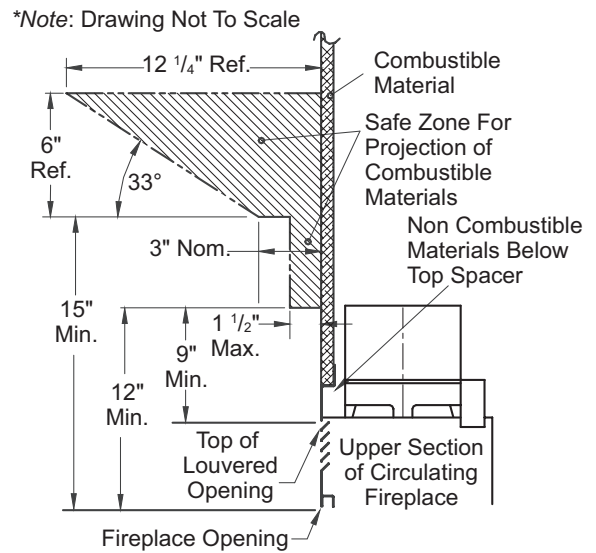

**Figure 3 - Hearth Extension**
Thermal conductivity " $k$ " of materials can be obtained from manufacturer or supplier of noncombustible material. If hearth extension is to be covered, use noncombustible material such as tile, slate, brick, concrete, metal, glass, marble, stone, etc. Provide a means to prevent hearth extension from shifting and seal gap between fireplace frame and hearth extension with a non-combustible material such as sand-cement grout (see Figure 3, page 6).
**⚠ WARNING: Hearth extension is to be installed only as shown in Figure 3.**